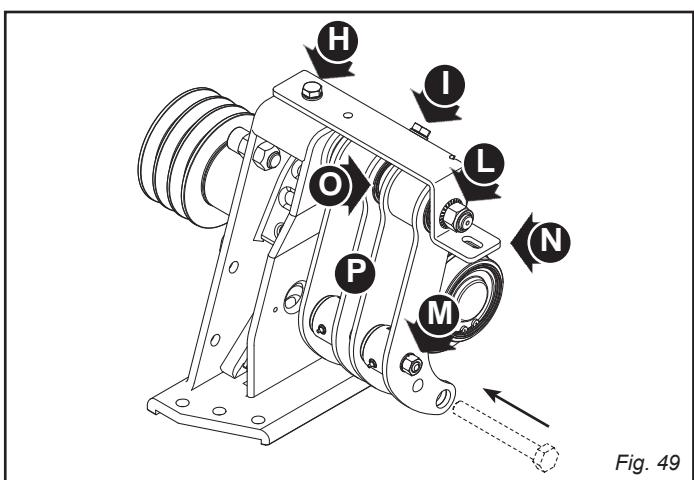

Fig. 49
- Remove the expansion pins (M, Fig. 49).
- Loosen and remove screws L, H, I (Fig. 49).
- Remove the support (N, Fig. 49).
- Remove the yokes (P, Fig. 49).
- 1) Insert the new yokes with the intermediate spacer (O, Fig. 49).
- 4) Align the yokes properly using a pin or screw (M20) (Fig. 49).